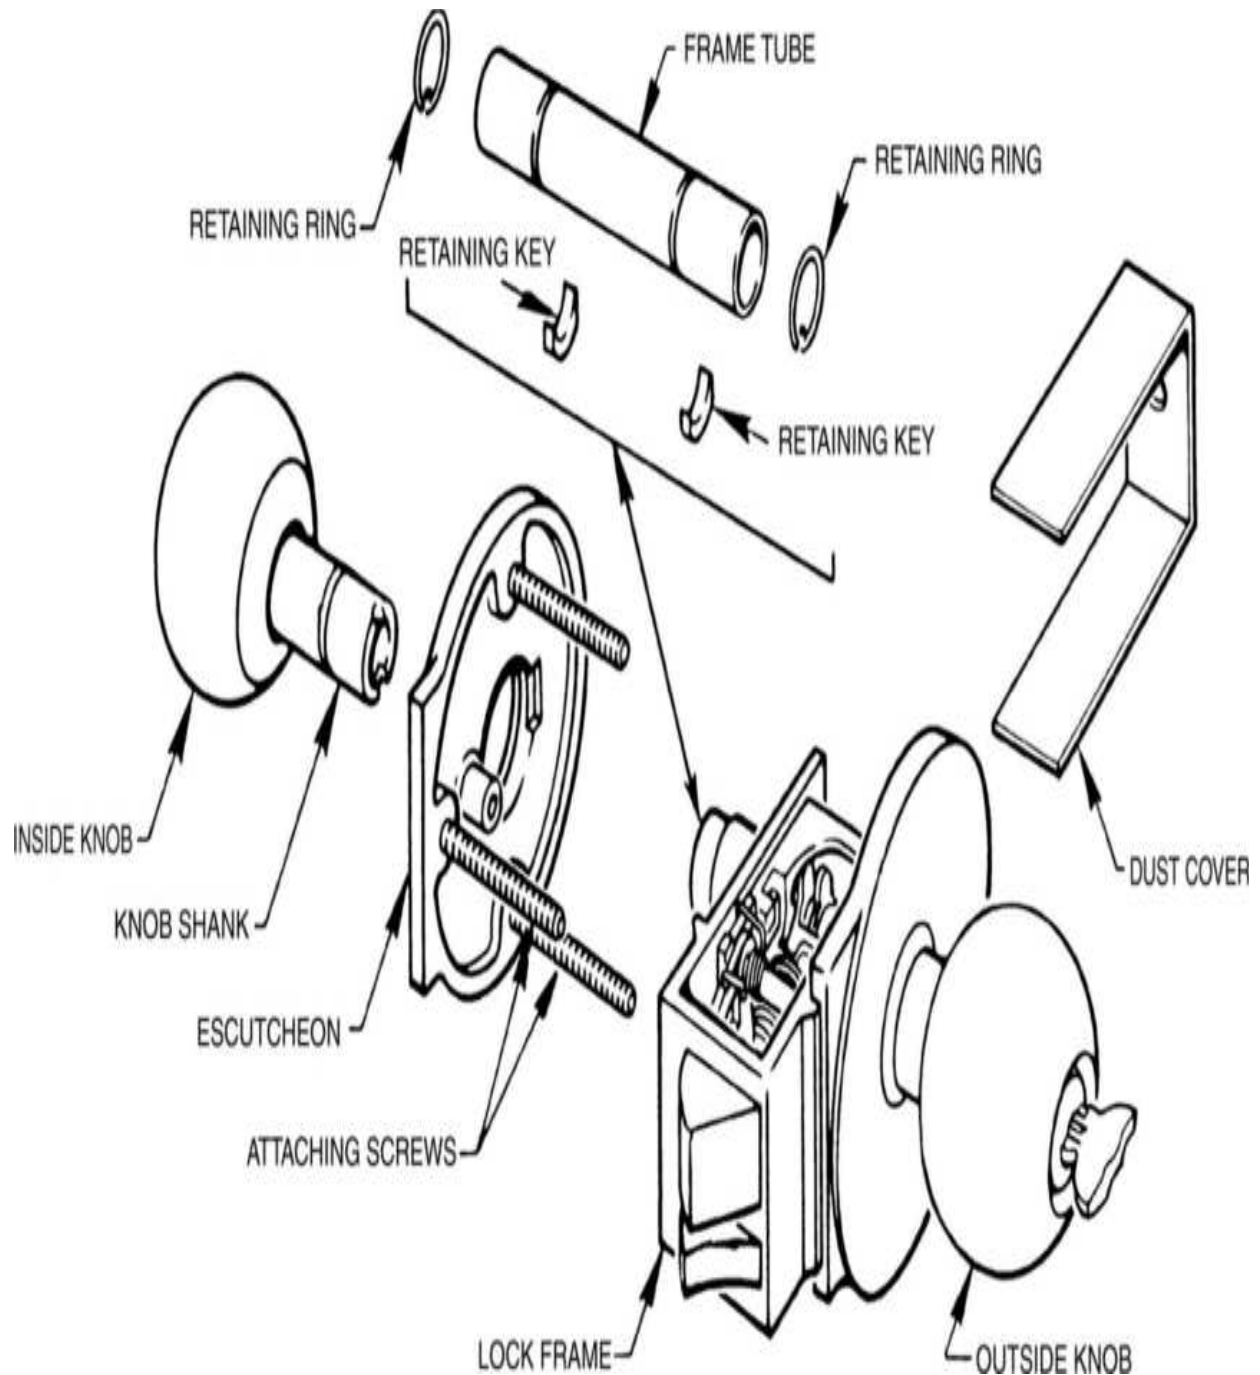

**Figure 13.26** Removing attaching screws.
1. Remove the attaching screws (Fig. 13.26 ).
1. Remove the key from the lock (lock should be unlocked). Remove the three attaching screws (Fig. 13.26 ).